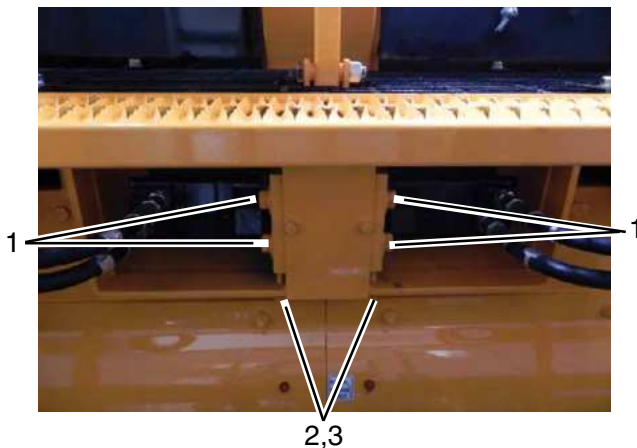

Figure 5-8. Auger Drive Chain Bolts
2. Loosen the motor bolts on the right and left auger chains. (**Figure 5-8**)